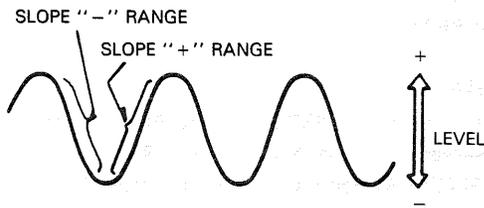

Fig. 9
Trigger point on waveform is adjusted by the LEVEL (22), and SLOPE (23) controls. Fig. 9 shows the relationship between the SLOPE and LEVEL of the trigger point. Triggering level can be adjusted as necessary.